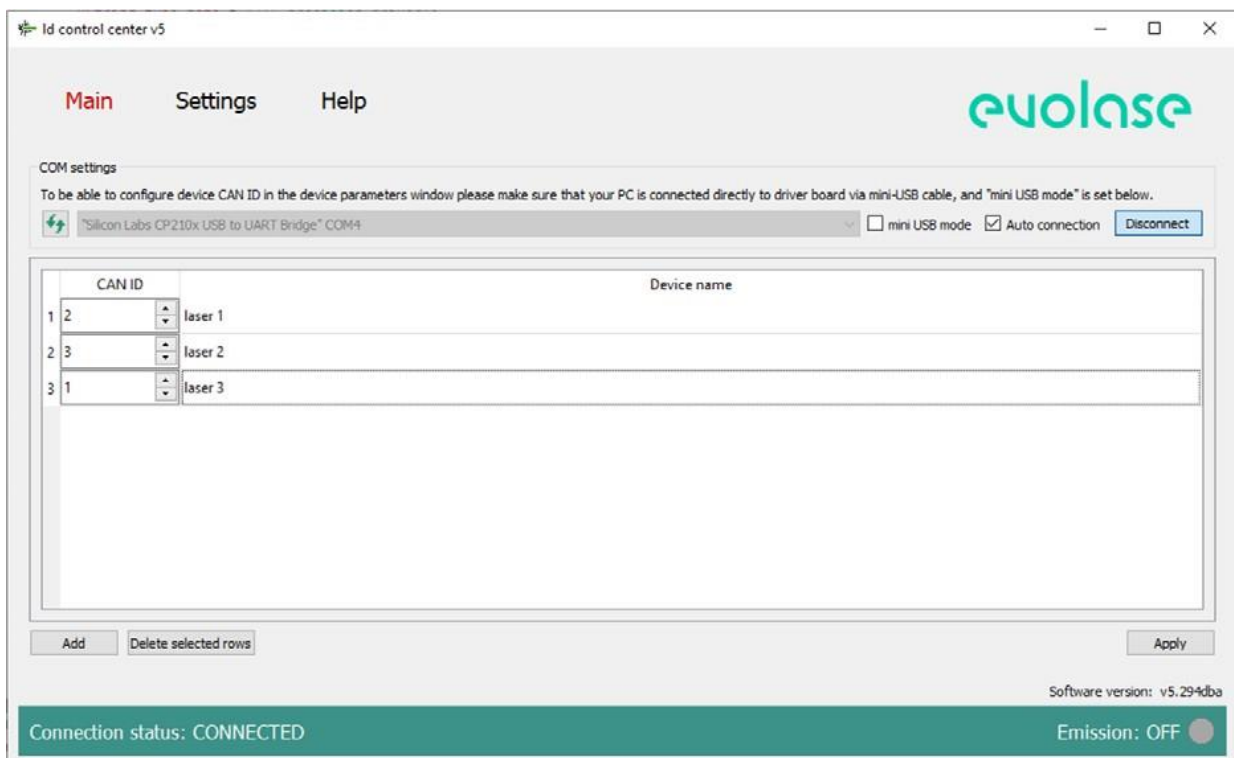

Figure 4: The system configuration menu
3. Click “Settings” to enter the program configuration menu (Fig 4.).